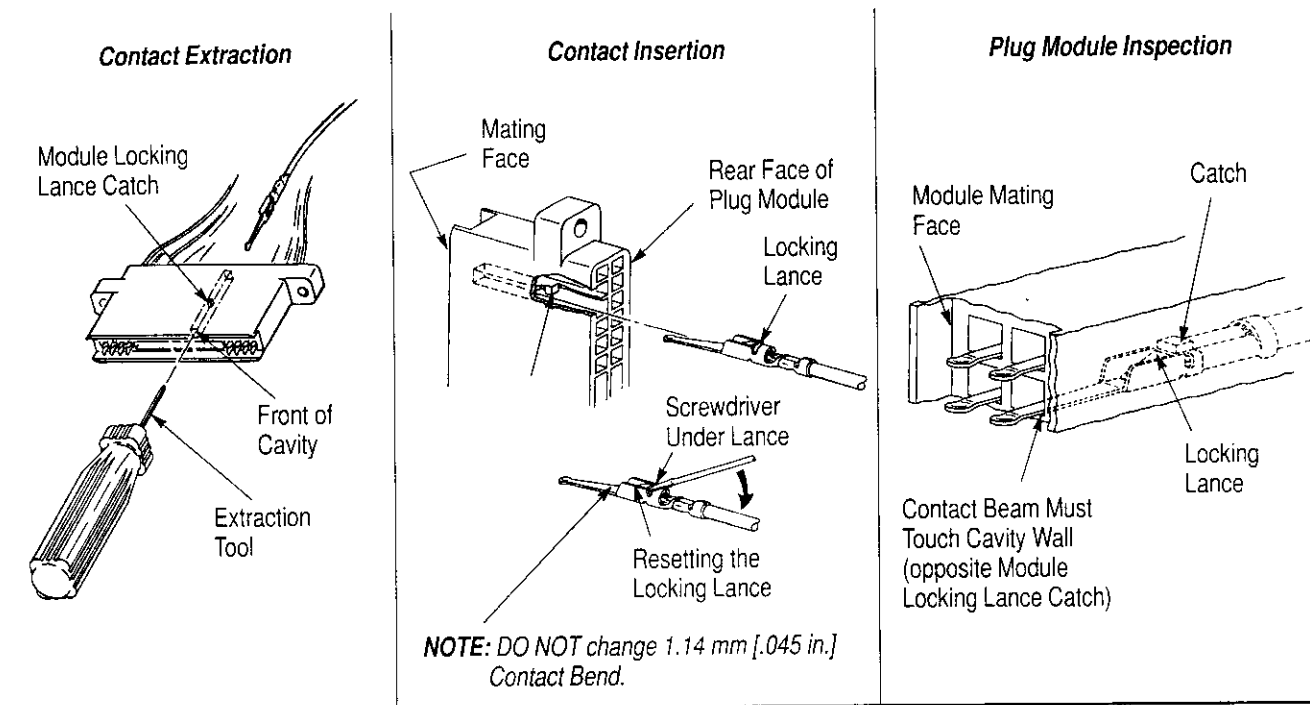

Figure 2
3.6. Contact Replacement (Figure 2)
Do not straighten the preformed bend (1.14 mm [.045 in.]) in contact beams during crimping and installation. Make sure that plug contact beams are preloaded against the module cavity wall opposite from the locking lance catch. See Figure 2. If contact beam does not touch cavity wall, replace the contact in order to ensure adequate contact pressure (normal force) when connector cam is actuated.
Plug module contacts are designed for multiple insertions and extractions. If a contact does not lock on insertion, reset the lance with a screwdriver-type tool. The locking lance should be set level with the sides of the contact, as shown in Figure 2. After insertion, inspect the mating face and make sure that contact beams touch the cavity wall opposite the locking catch.